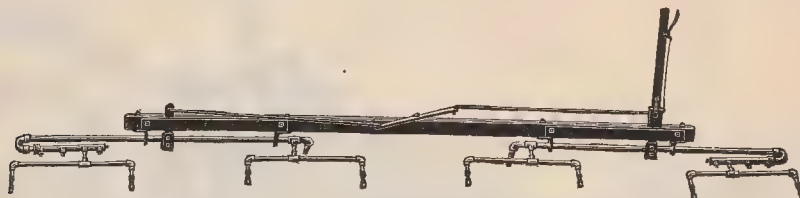

Fig. 220
**Wild Mustard Attachment.**—In Fig. 220 we show an equipment and its method of attachment, for the extermination of wild mustard, which in certain sections is becoming so troublesome.